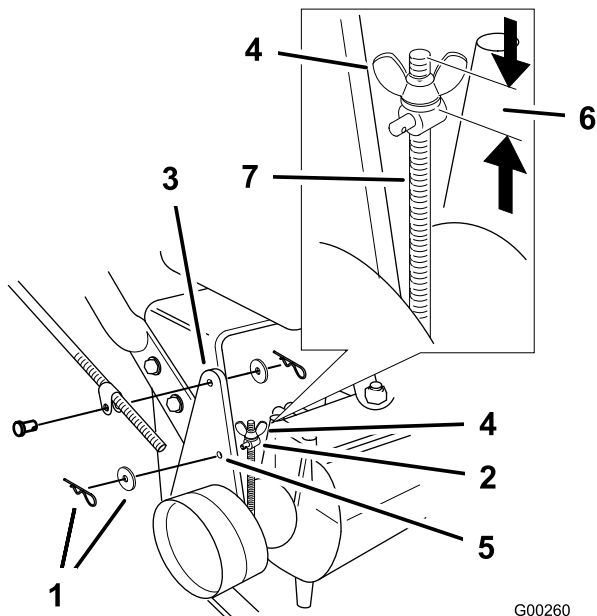

Figure 49
Note: For the initial adjustment, adjust the wing nut until it is 1-1/4 inches from the top of the rod (Figure 49).
5. To adjust the brake remove the hair pin cotter and washer from the brake lever and trunnion (Figure 49).
8. Install the trunnion into hole F (Figure 49). Tighten the wing nut.
9. Secure trunnion to brake lever with washer and hair pin cotter (Figure 49).